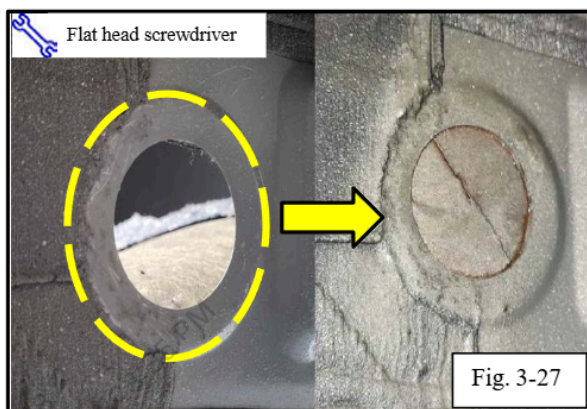

Fig. 3-27
- (r) From the underside of the vehicle, carefully remove deadening material on the flat surface surrounding the hole using a flat head screwdriver (Fig. 3-27). This area is shown enclosed by the dashed circle in the image.